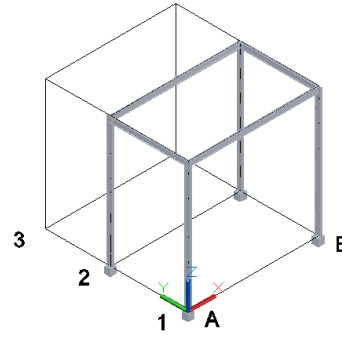

Figure 3-41 Model after adding columns and beams
5. Choose the **Member** tool and place beams on both levels of the grid. The model after placing all the beams is shown in Figure 3-41.